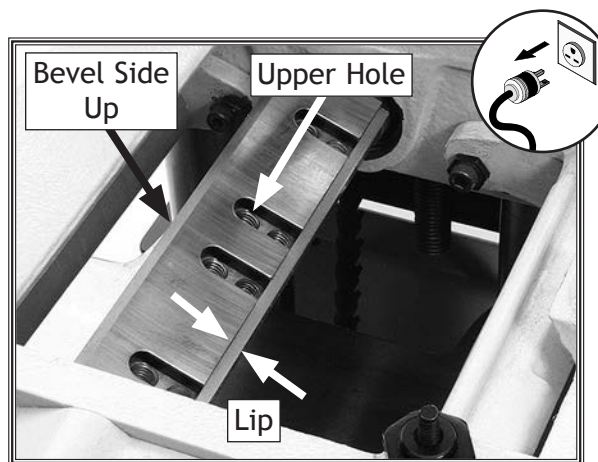

Figure 23. Correct planing knife position.
5. Place the new planing knife against the cutterhead lip with the beveled side of the knife facing up, as shown in **Figure 23**.
6. Line up the holes in the planing knife and the cutterhead, and install a $\frac{3}{8}$ "-16 x 1" knife bolt and $\frac{3}{8}$ " flat washer in each of the upper hole positions shown in **Figure 23**. Make sure to keep the planing knife seated against the cutterhead lip while tightening the bolts.